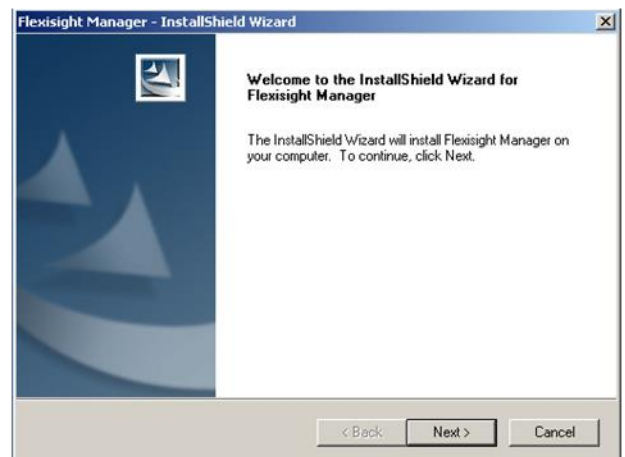

Figure 2.1 Installer
3. Once the Install Wizard (Figure 2.1) appears click on the **Next** button.